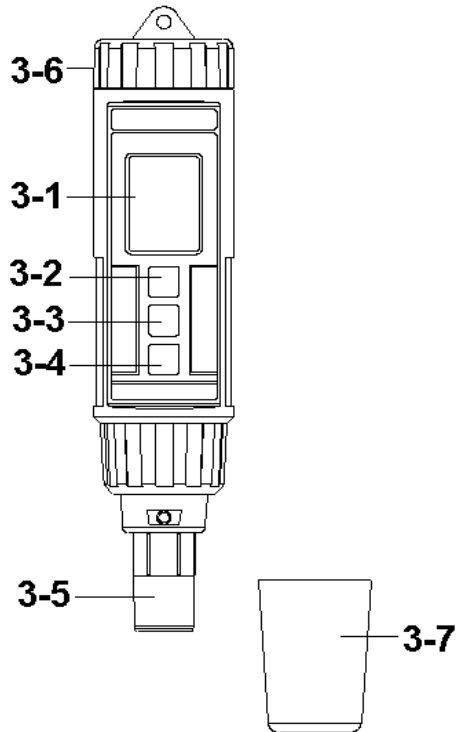
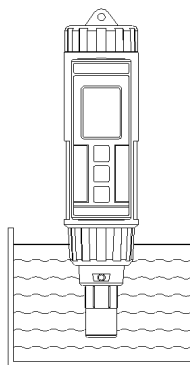

Fig. 1
Fig. 2
1) Move the " Protection cover " (3-7, Fig. 1) away from the " Probe head " (3-5, Fig. 1).
Power on the instrument by pushing the " Power Off/On button " (3-2, Fig. 1).
The " Display " (3-1, Fig. 1) will show the " O2% " and the " Temp. " value as example :
Press the " HOLD button " (3-3, Fig. 1) once, the " Display " (3-1, Fig. 1) will show the " Hold " indicator, then following press the " REC button " (3-4, Fig. 1) once, the Display will show :
- 2) Press the " Unit button " (3-3, Fig. 1) continuously at least two seconds, the display indicator will change from " % O2 " change to " mg/L ", now the meter is ready for Dissolved Oxygen (DO) measurement.
- 3) * Immersed the " Probe head " (3-5, Fig. 1) to the measured liquid (sample) completely in order for the probe to be influenced by the automatic temperature compensation circuit, refer to Fig. 2, page 7.
- Install " Probe head protection cover " (3-7, Fig. 2) into the " Probe head " (3-5, Fig. 2).
- b. Press the " REC button (°C, °F button) " (3-4, Fig. 1) continuously at least two seconds, the Temp. unit will change from " °C " to " °F " or " °F " to " °C " with default, then release the finger from the button.
During the measurement, press the " Hold button " (3-3, Fig. 1) once will hold the measured value & the LCD will display a " HOLD " symbol.
- * The data record function records the maximum and minimum readings. Press the " REC button " (3-4, Fig. 1) once to start the Data Record function and there will be a " REC " symbol on the display.
- a) Press the " REC button " (3-4, Fig. 1) once, the " REC MAX " symbol along with the maximum value will appear on the display.
If intend to delete the maximum value, press the " Hold button " (3-3, Fig. 1) once, the display will show the " REC " symbol only & execute the memory function continuously.
- b) Press the " REC button " (3-4, Fig. 1) again, the " REC MIN. " symbol along with the minimum value will appear on the display.
If intend to delete the minimum value, press the " Hold button " (3-3, Fig. 1) once, then the display will show the " REC " symbol only & execute the memory function continuously.
- 2) To replace the battery, rotate and remove the " Battery Cover " (3-1, Fig. 1), take out the old batteries, install new batteries :